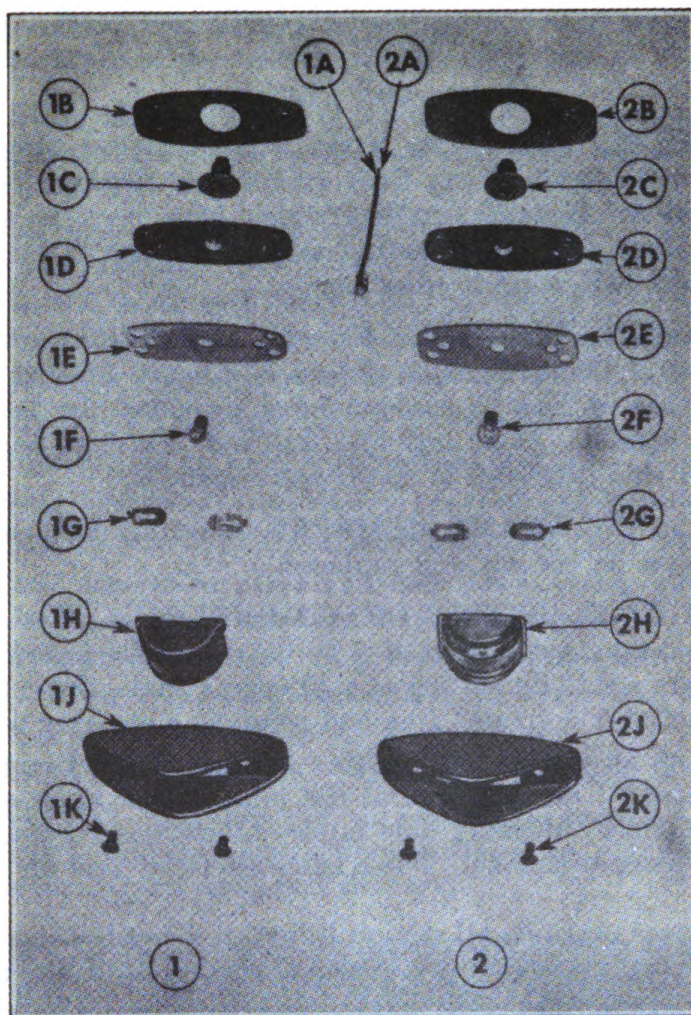

FIGURE 43. CLEARANCE LIGHTS—BLACKOUT AND AMBER CLEARANCE LIGHTS
3. **CLEARANCE LAMP.**—Servicing procedure on both standard clearance lamps and blackout clearance lamps is identical. (Fig. 43.)
a. *Replacing lens.*—(1) Turn the two screws holding lens housing to lamp about three-quarters of the way out and lift housing off.